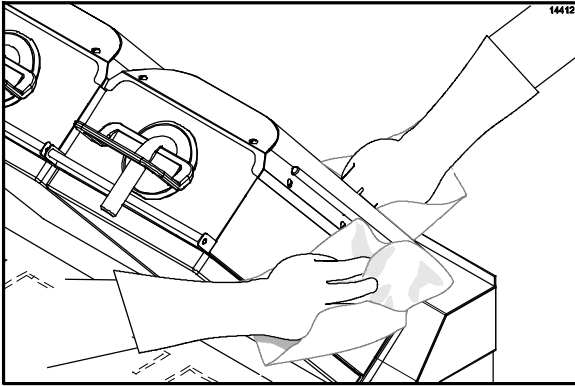

Figure 102
31. Rinse the front, side, and back of the platen surfaces with a clean, sanitizer-soaked grill cloth, starting from the right platen to the left platen. (See Figure 102.)